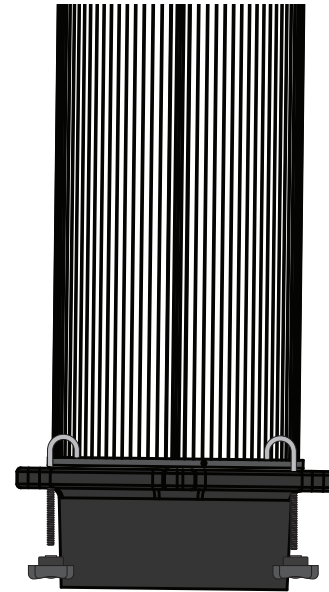

FIG. 13
Attach a Fine Dust Bin (M6) to each Filter (N) with four J-Bolts (M4) and four Thumb Nuts (M2) as shown in [FIG. 13].